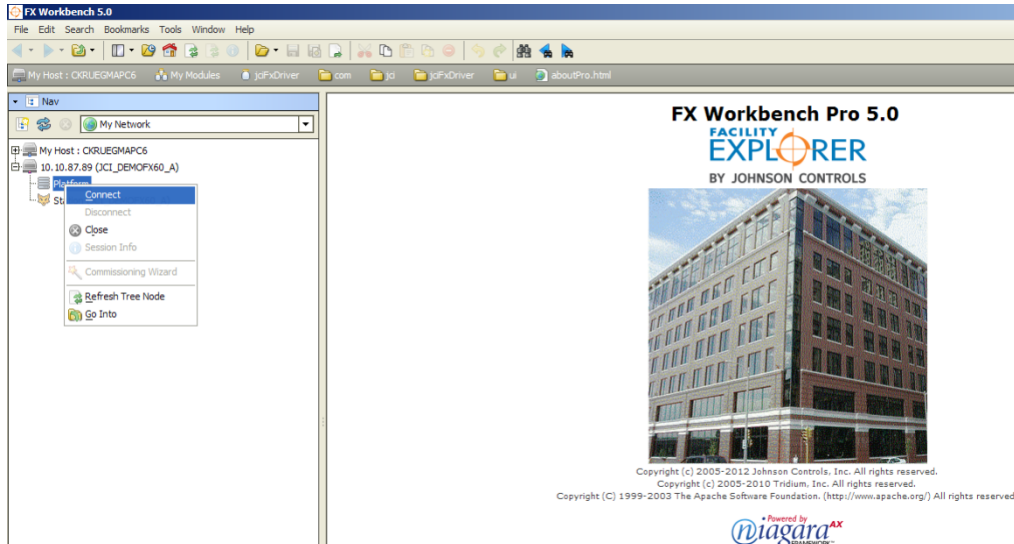

Figure 8: Opening the LX Platform
1. In the Nav side bar, right-click the necessary Facility Explorer platform and select **Open Platform** (Figure 8).